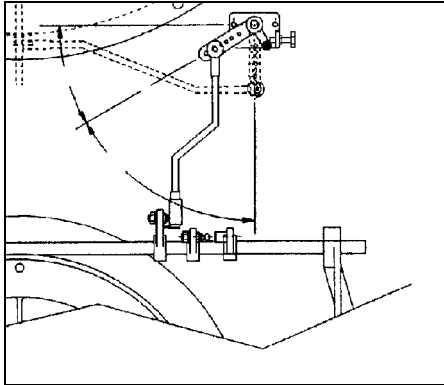

Figure 1-12 Over Travel and Fuel Change-over Linkage
9. Over-Travel Mechanism (**Figure 1-12**). The over-travel mechanism has two functions. It allows the linkage to pass through the front door, and it allows jackshaft rotation to exceed (over travel) IFGR linkage movement. A set of springs allows the linkage to stay in a fixed position while the jackshaft rotates.
10. Fuel Change-Over Linkage (**Figure 1-12**). When a boiler is equipped to fire either gas or oil (dual-fuel boilers), and the required NOx levels are below 60 ppm on natural gas, a dual-linkage arrangement is used to provide the different recirculation rates required for each fuel. Two jackshaft drive arms are provided, one for oil and one for gas. The linkage is manually connected to the appropriate arm, based on the fuel being used. On dual-fuel boilers with two jackshaft drive arms, as defined above, a proximity switch is used to prove that the correct linkage connection is made. (Refer to the wiring diagram provided with the boiler.)